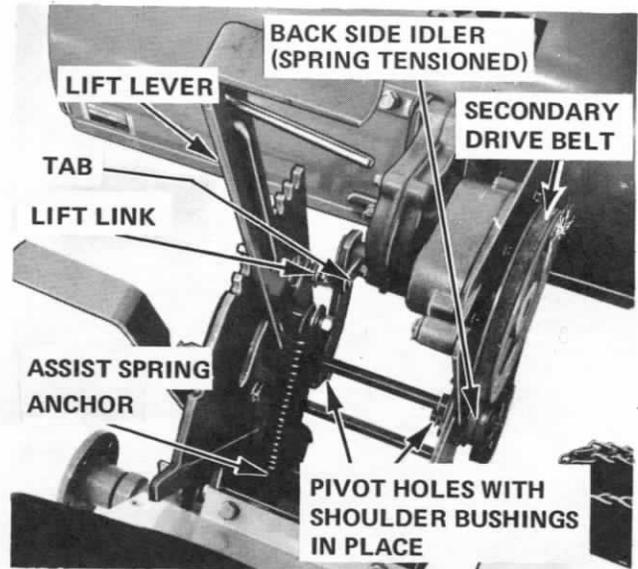

Figure 9
C. Attaching Tiller Assembly to Mounting Bracket and Installing Lift Lever: (Refer to Figure 9.)
1. Install secondary drive belt. (Refer to Figure 9.)